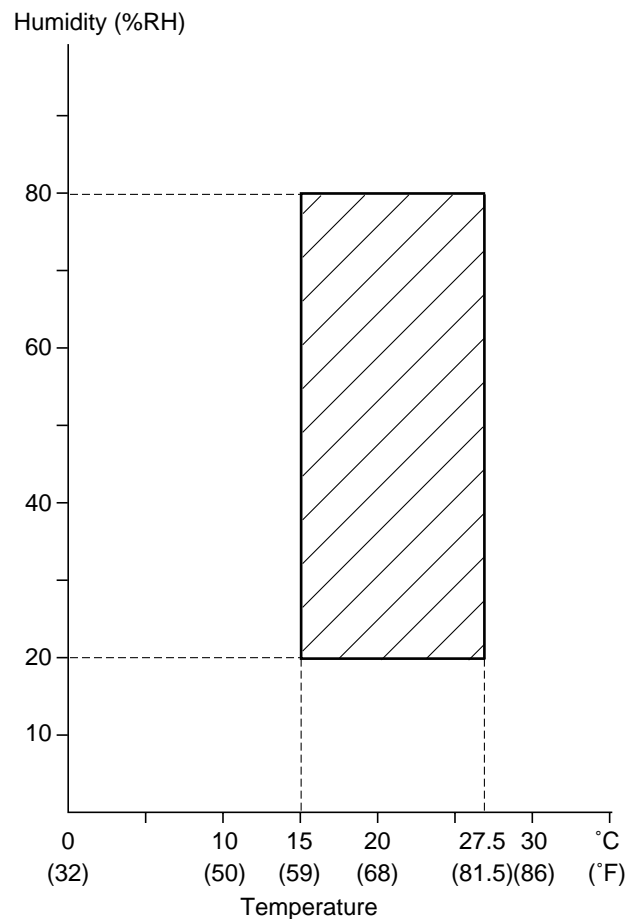

Figure 6-101 Site Environment
- 2) The temperature and humidity of the site must be as indicated in Figure 6-101. In particular, avoid areas near water faucets, water boilers, humidifiers, and refrigerators.